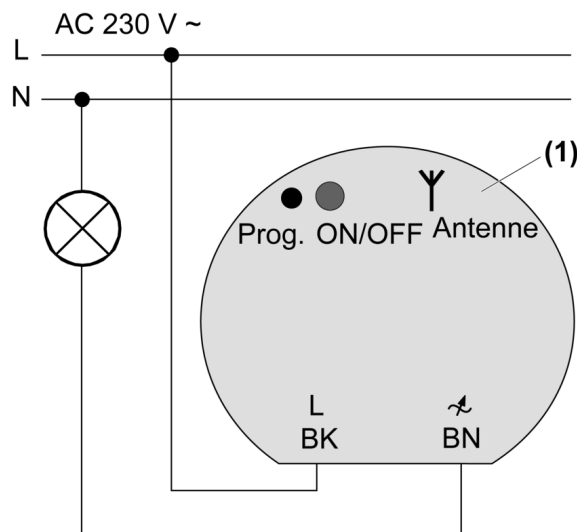

Figure 3
- Connect the dimmer (1) to lamp terminals according to connection diagram (figure 3) (see Using the lamp terminals).